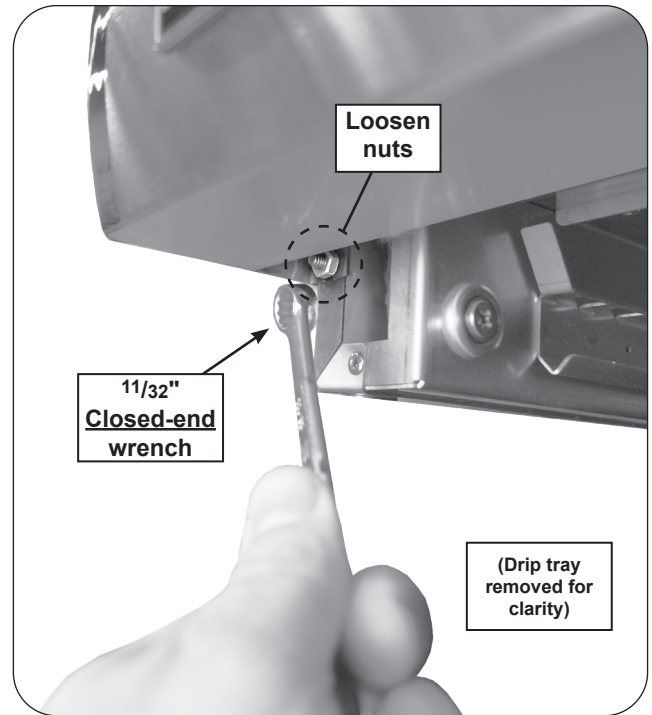

Fig. 36-1 Remove control panel
3. Loosen the nuts underneath the left and right sides of the control panel with a 11/32" wrench (see Fig. 36-1), then lift the panel until it is freed from the screws. Carefully rest the bottom of the control panel on the drip tray. The top of the control panel is supported by the internal chains.